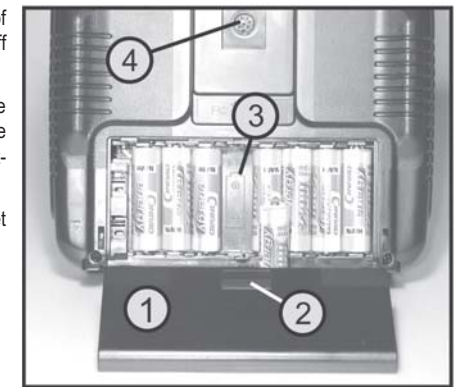

Figure 2
The control signals can be taken from the trainer socket (see figure 2, item 4) via an optional connection cable to connect, e.g. to the teacher transmitter or the flight simulator interface.